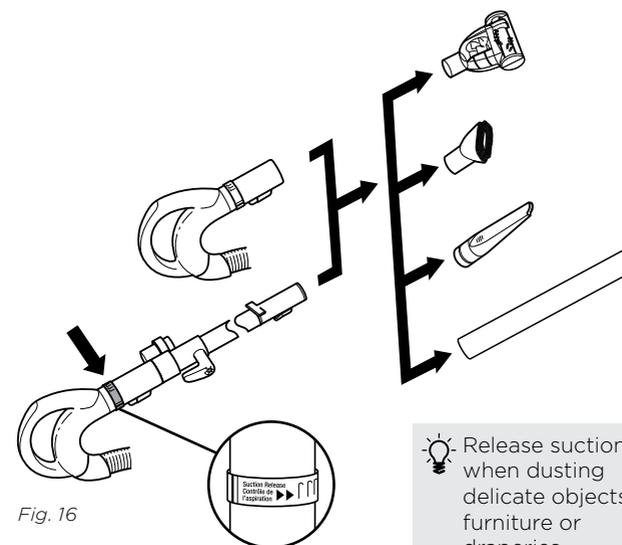

Fig. 16
- 2 Attach desired accessory onto the end of either the extension wand or the handle. **(Fig. 16)**
- 3 **Adjust the amount of suction with the suction release on the handle. Open the valve (a) by rotating the collar 90° counterclockwise for low suction when doing light jobs such as drapes or fine surfaces. Close the collar clockwise 90° for high suction and when using the hand held pet power brush. (Fig. 16)**